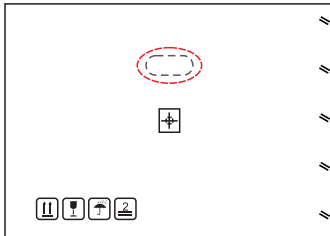

Figure 3.3
1. Push in pre-cut cutouts to form carrying handles (Figure 3.3).